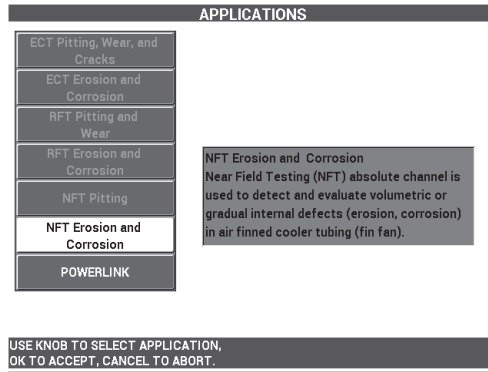

Figure 5-234 The NFT Erosion and Corrosion application
2. Select **CONTINUE** (press the A key) to open the application selection menu, and then use the knob to select **NFT Erosion and Corrosion**, and press ✓ to accept (see Figure 5-234 on page 294).